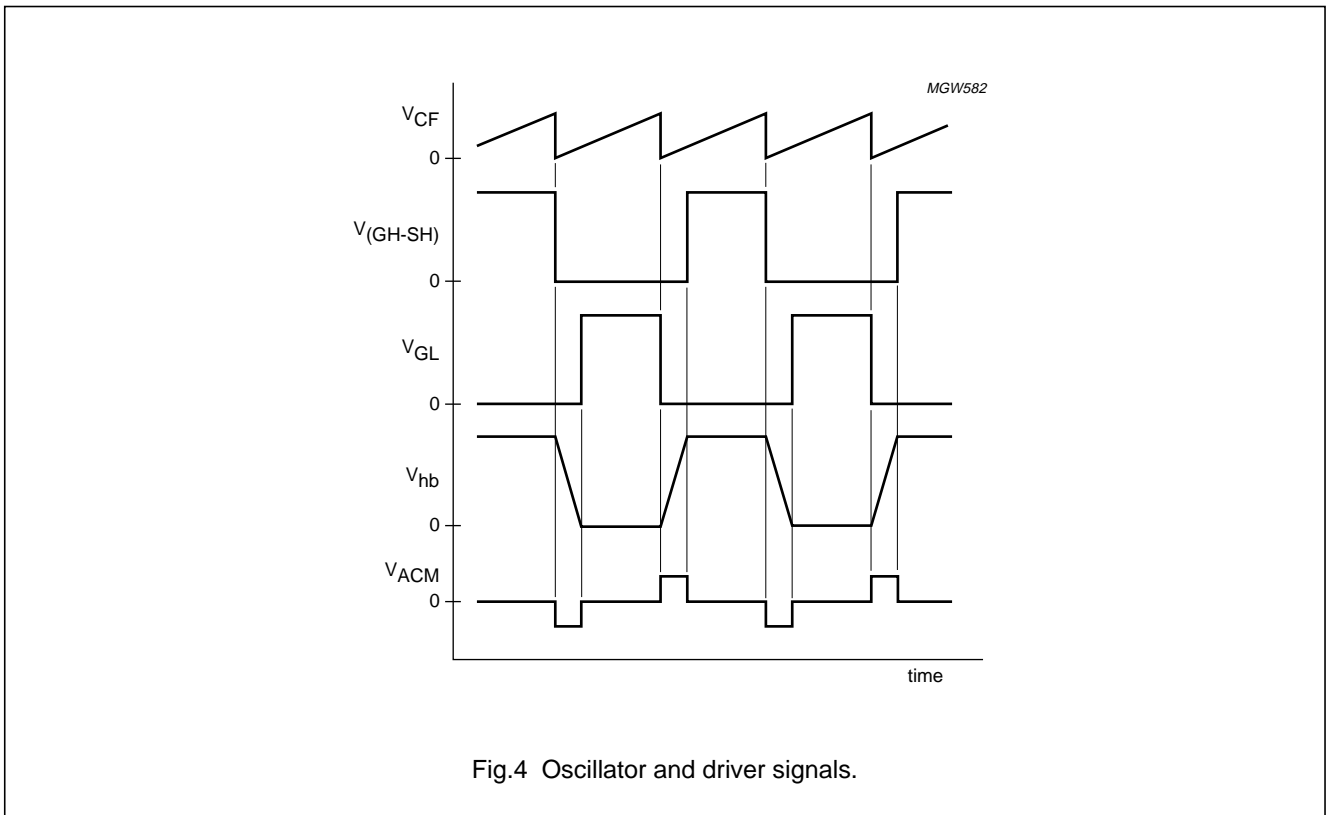

Fig.4 Oscillator and driver signals.
The internal oscillator is a Voltage-Controlled Oscillator circuit (VCO) which generates a sawtooth waveform between the CF_{high} level and 0 V. The frequency of the sawtooth is determined by capacitor C_{CF} , resistor R_{IREF} , and the voltage at pin CSW. The minimum and maximum switching frequencies are determined by R_{IREF} and C_{CF} ; their ratio is internally fixed. The sawtooth frequency is twice the half-bridge frequency. The UBA2014 brings the transistors TR1 and TR2 into conduction alternately with a duty cycle of approximately 50%. An overview of the oscillator signal and driver signals is illustrated in Fig.4. The oscillator starts oscillating at f_{max} . During the first switching cycle the Low-Side (LS) transistor is switched on. The first conducting time is made extra long to enable the bootstrap capacitor to charge.
The non-overlap time is realized with an adaptive non-overlap circuit (ANT). By using an adaptive non-overlap circuit, the application can determine the duration of the non-overlap time and make it optimum for each frequency (see Fig.4). The non-overlap time is determined by the slope of the half-bridge voltage, and is detected by the signal across resistor R16 which is connected directly to pin ACM. The minimum non-overlap time is internally fixed. The maximum non-overlap time is internally fixed at approximately 25% of the bridge period time. An internal filter of 30 ns is included at the ACM pin to increase the noise immunity.